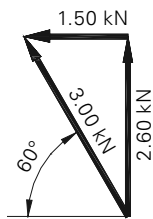

Fig. A7.04
- Permissible horizontal component of the tension load on the anchor chain =  $3 \text{ kN} \times \cos 60^\circ = 1.5 \text{ kN}$ . (Fig. A7.04)